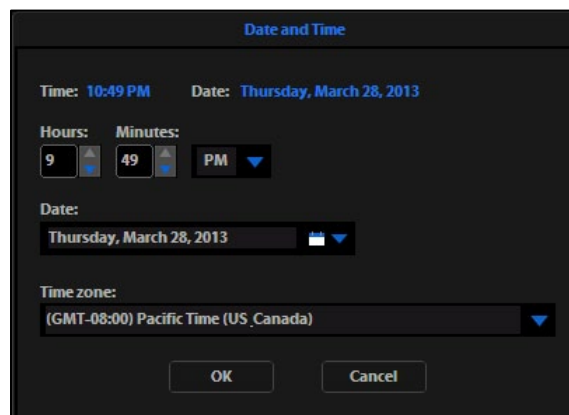

Figure 23 Date and Time Popup
3. In the Date and Time popup, use the arrows and the drop-down menus to set the time, date, and time zone, then click **OK** (Figure 23).